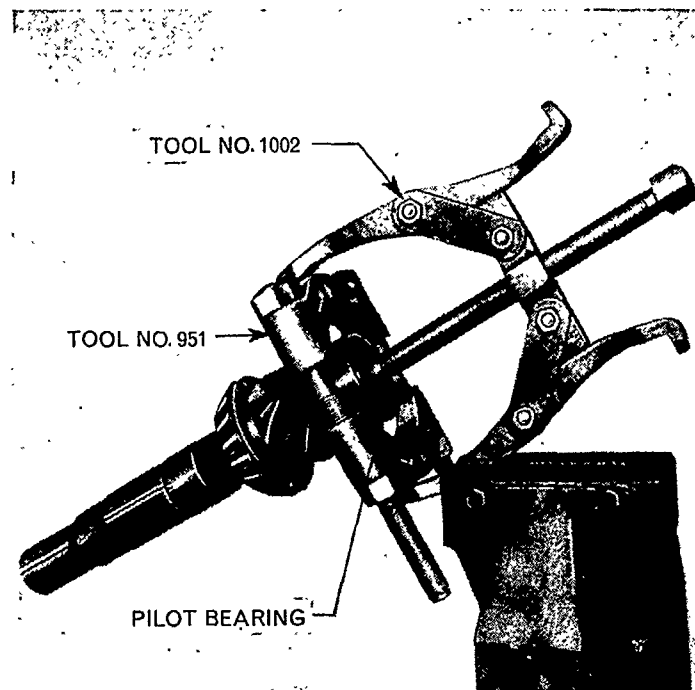

Figure 66
7. Remove the lock ring from the rear end of the pinion gear and using Tool Nos. 1002 and 951 pull the pilot bearing off the pinion gear, Figure 66.